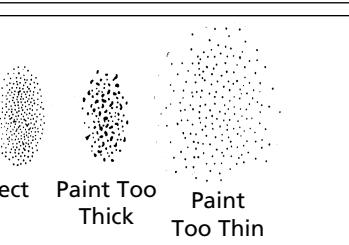

Figure 8 - Pattern Consistency (Atomization)
material flowing through the gun. (Turn the knob clockwise to reduce flow, counterclockwise to increase the flow.) This adjustment depends, in part, on the amount of air flowing through the gun. Air flow can be adjusted only at the compressor's pressure regulator. Spray test patterns on scrap cardboard with gun 8" away from surface. Trigger short, one second bursts and make adjustments with this knob until the pattern is the desired oval shape and the material is evenly distributed on the surface with no heavy or thin spots. The pattern should feather out at the edges (See Figure 8).
4. With gun 8" away from surface, trigger a short, one second burst while turning fluid control knob counterclockwise. Observe the spray pattern on the target and adjust the fluid control knob until the desired pattern (atomization) is obtained (See Figure 8).